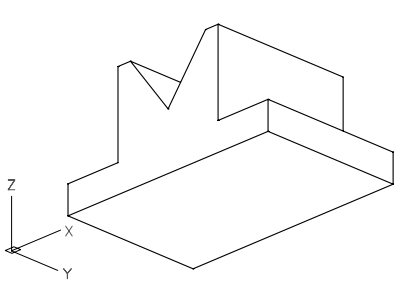

Figure 2-19 Viewing the 3D model with the angle in the XY plane as **315** and the angle from the XY plane as **-25**
1. If you set a negative angle from the XY plane, the Z axis will be displayed as a dotted line, indicating a negative Z direction, refer to Figures 2-19 and 2-20.